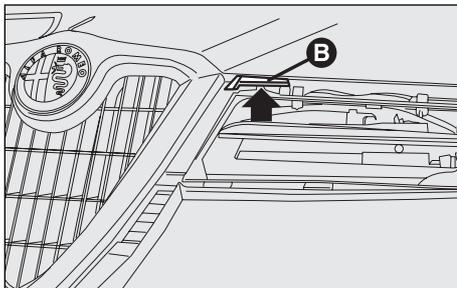

fig. 149
- Press the safety lever (**B-fig. 149**) upwards.